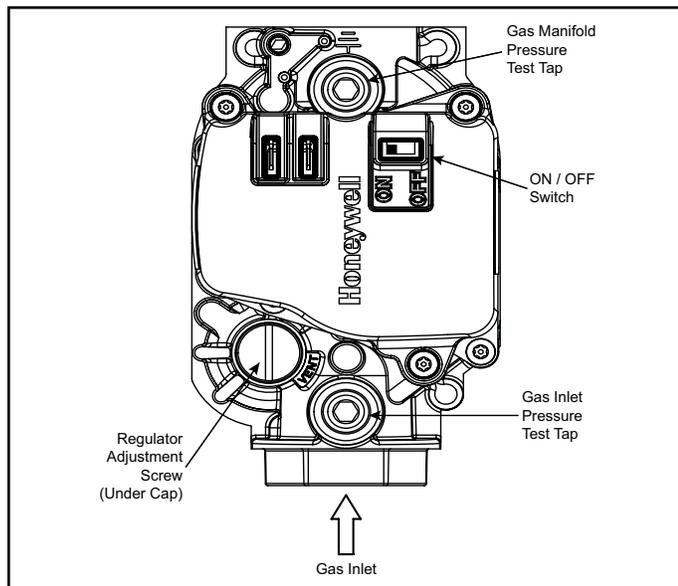

Figure 8. Gas Valve
3. Move the gas valve switch to the "ON" position (see Figure 8).
2. Move the gas valve switch to the "OFF" position (see Figure 8).